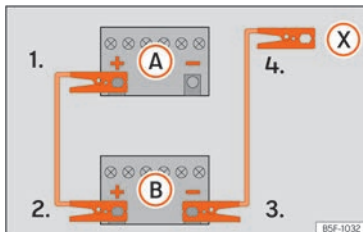

Fig. 43 Diagram of connections for vehicles without Start-Stop system.
2. Connect one end of the *red* jump lead to the positive (+) terminal of the vehicle with the flat battery (A) »» Fig. 43.
3. Connect the other end of the *red* jump lead to the positive (+) terminal (+) in the vehicle providing assistance (B).
- 4a. *In vehicles without a Start-Stop system:* connect one end of the *black* jump lead to the negative terminal (-) of the vehicle providing the current (B) »» Fig. 43.